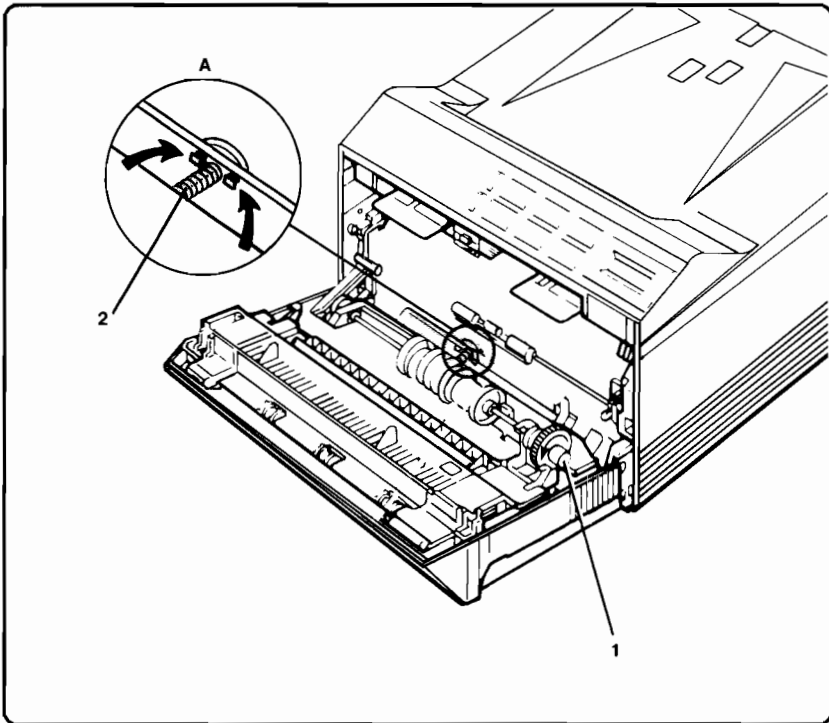

Figure 6-53. MP Tray Pressure Plate Removal
3. If necessary, rotate the Pick-Up Roller Assembly (see Figure 6-53, callout 1) forward until the tension on the MP Tray Pressure Plate spring (see callout 2) is minimized.
4. Remove the Spring Cap and Spring from the Paper Path Door using a small flat-head screwdriver (see Figure 6-53, detail A).